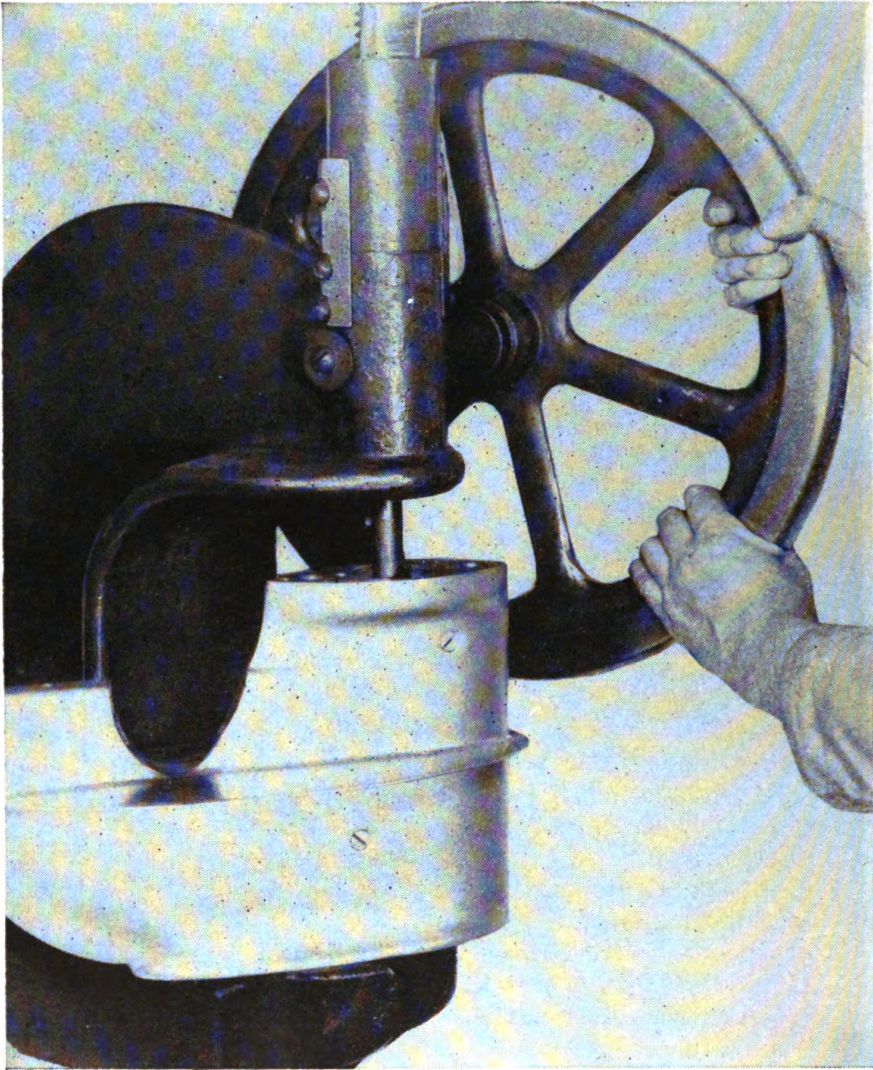

Figure 124. Driving out bearing in pinion-shaft casing.
(2) To drive out top bushing, place pinion-shaft case on table of press as shown in figure 124. Insert round bar or mandrel slightly smaller than bushing to permit driving all way out. To install new bushing, place case on table of press with bushing side up. Press in new bushing until thrust face rests solidly against casing.